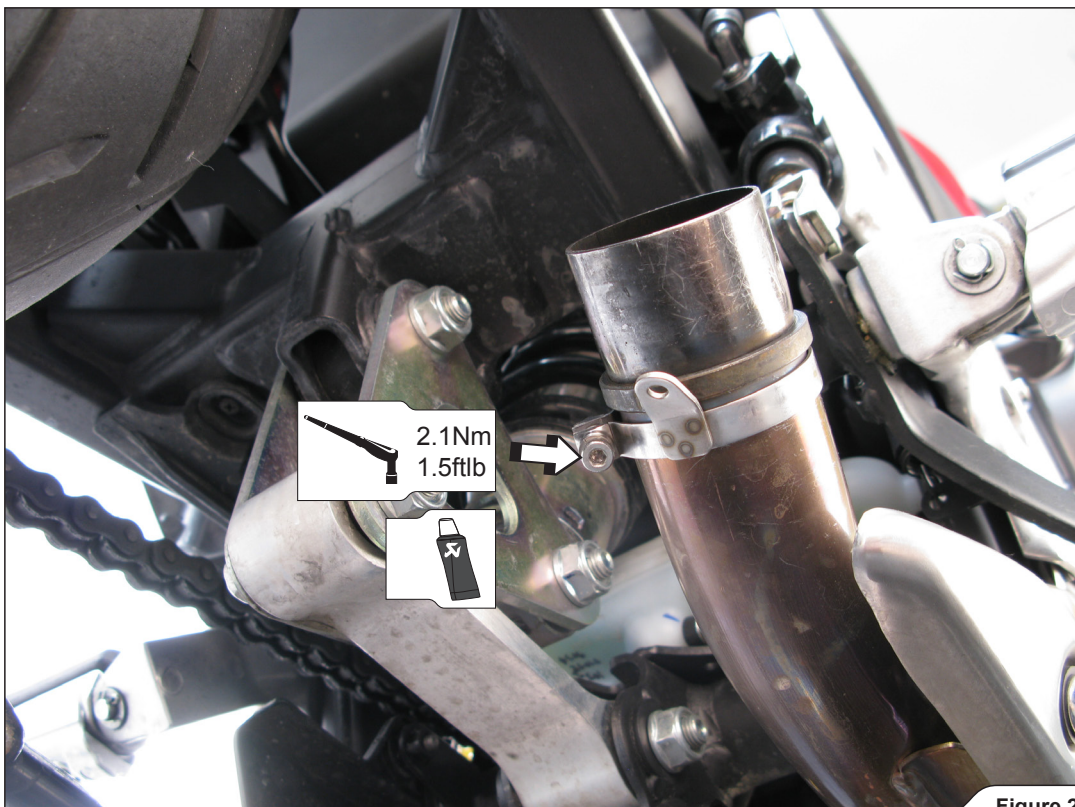

Figure 2
1. Orient and assemble the spring hook clamp from Akrapovič installation kit onto the stock pipe, exactly as shown (Figure 2).